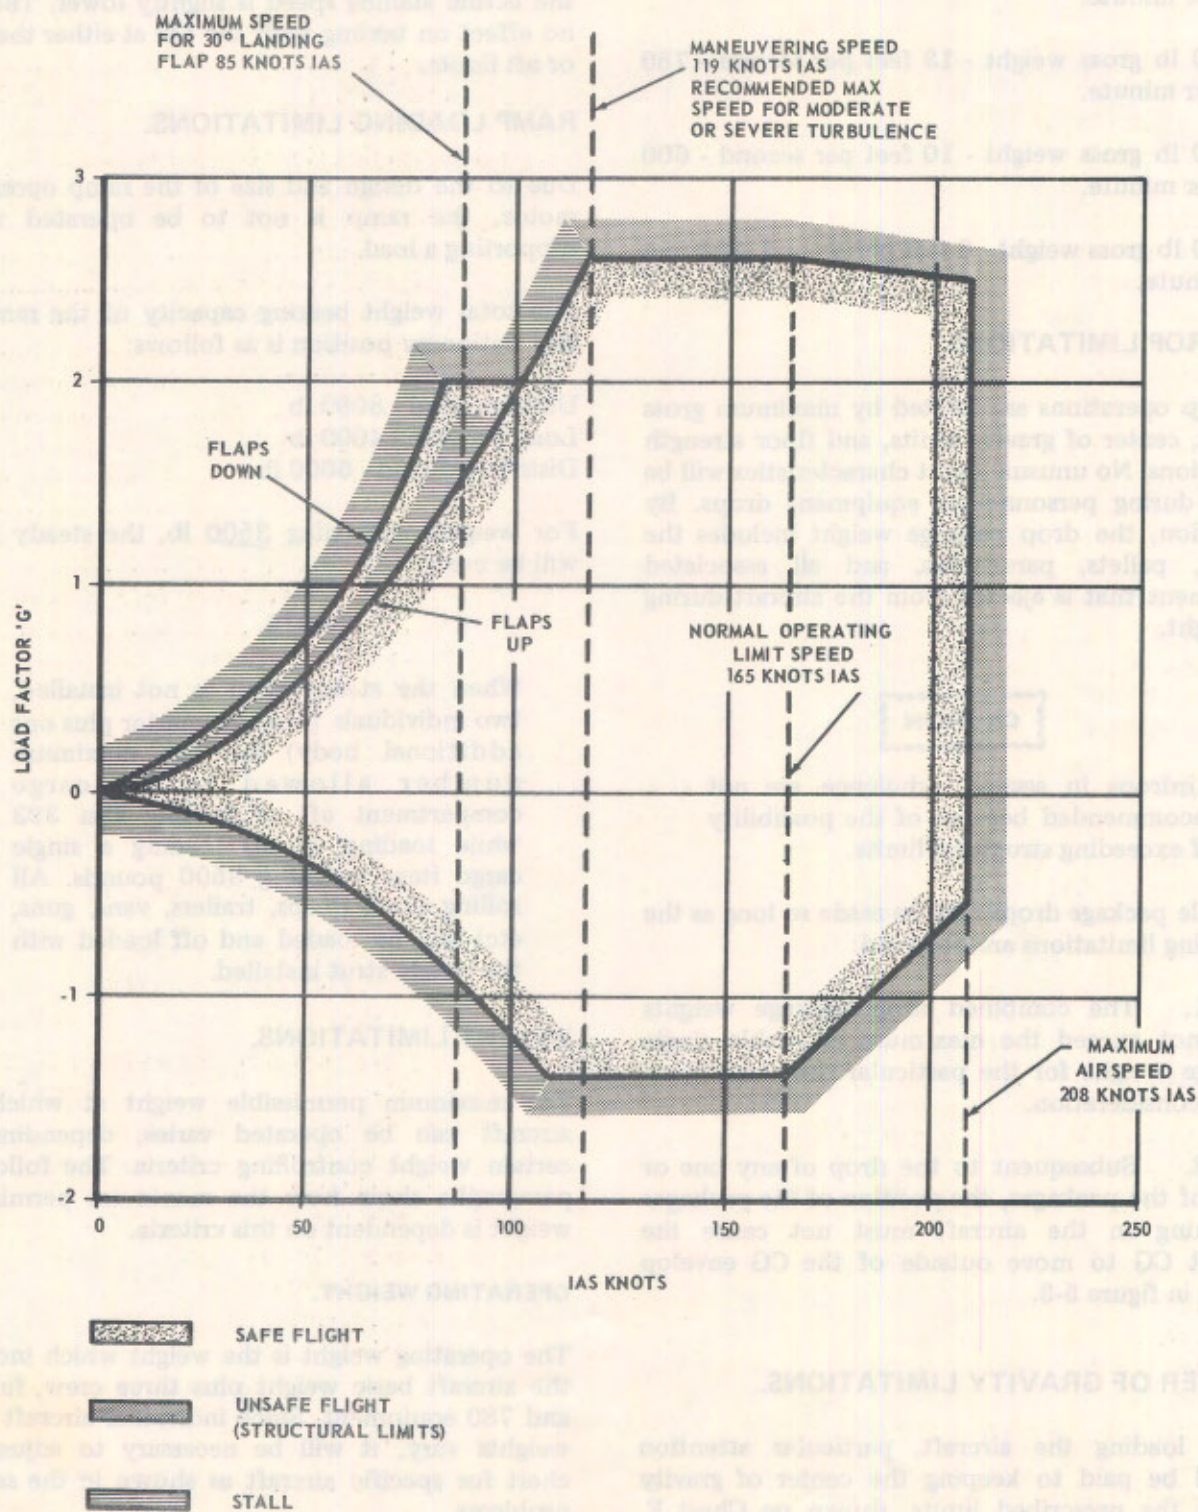

Figure 5-2
An operating VG diagram is shown in figure 5-2 and applies from sea level to 10,000 feet. The boundary lines show airspeeds and load factors which must not be exceeded under any circumstances. The maneuver speed line is marked at 119 knots IAS, and is the limit airspeed for maneuvers involving full control deflection. At or below this speed it is impossible to exceed the limit load factors, as the aircraft will stall. Above this speed maneuvers may be performed which do not involve full control movements, provided the limit load factors are not exceeded. Further, it must be remembered that turbulent air or gusts impose g loading on the aircraft structure even in straight and level flight, and this is additional to any loading the pilot is imposing through maneuvers. For this reason, on a gusty day, the aircraft should be slowed down to maneuver speed and pilot
Note - The speed limitations applicable to an aircraft gross weight of 28,500 lb apply. Limit maneuver load factors between Maximum Speed & Normal Operating Limit Speed are 2.0G and 1.0G. (See also note on limiting of this gross weight) is not recommended. Note - 28,500 lb Design Gross Weight. A speed load factors are described in Fig 5-2. Max fuel on landing - 13,500 (13,500 FPM).
- Note - 28,500 lb Design Gross Weight. Airspeed load factors are described in Fig 5-2. Max sink on landing -13 FPS (780 FPM)